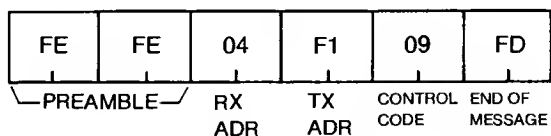

Fig. 39
- (2) If the controller sends the packet shown in Fig. 39, the